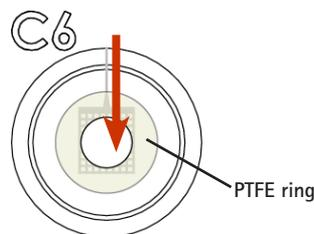

Figure 7. Well 6 cell inlet
3. Aspirate the PBS solution from well 6, including the bottom hole with the PTFE (polytetrafluoroethylene) ring around it (Figure 7).
2. Aspirate solution from cell inlet well 6 including the bottom hole with the PTFE ring around it (Figure 7).
2. Aspirate solution from cell inlet well 6 including the bottom hole with the PTFE ring around it at the bottom of the well (Figure 7).